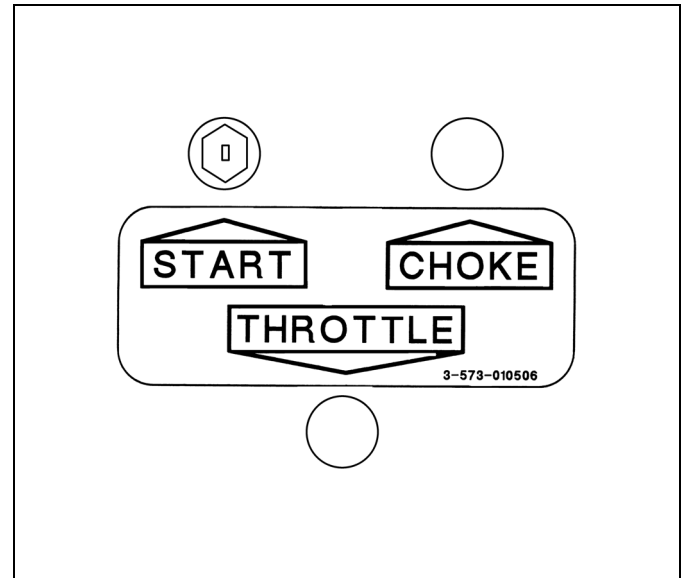

Figure 3-19: Engine Control Panel
2. The **ENGINE IGNITION SWITCH** is located by the hydraulic controls on the driver's side of the semitrailer. Use the key to start and stop the Hydraulic Power Supply Engine (See Figure 3-19.) This switch has three positions:
3. The **HYDRAULIC POWER SUPPLY ENGINE CHOKE** is used to aid the starting procedure(See Figure 3-19.)
4. The **HYDRAULIC POWER SUPPLY ENGINE THROTTLE** controls the speed at which the engine operates (See Figure 3-19.) It is a variable position control: